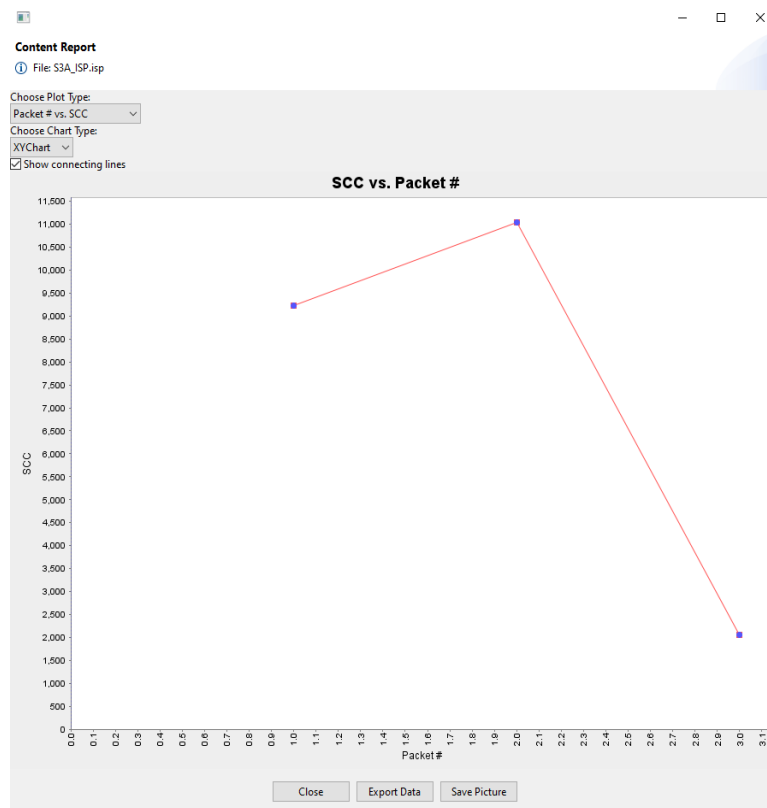

Figure 39: Data plotting dialog - XY Chart
3. When finished, the plot is shown in dialog (Figure 39). The user can display the several plot types, by selecting them in the top combo box. The user can also select between the available chart types: XY Chart and Pie Chart.